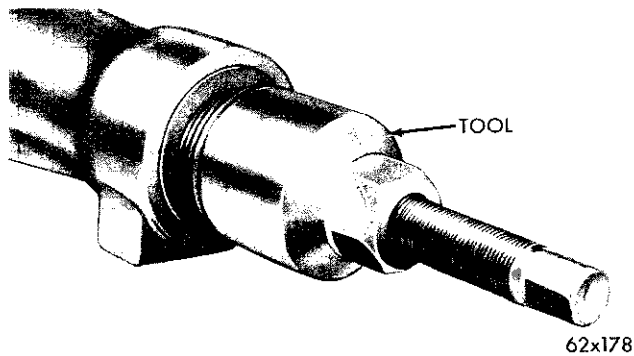

Fig. 36—Removing Output Shaft Oil Seal (Imperial Models)
- (1) Disconnect the propeller shaft at the transmission yoke.
- (2) Hold the transmission yoke with Tool C-3281 and remove the retaining nut and washer. Slide the yoke off the output shaft. (Use puller Tool C-452 if necessary).
- (3) Screw the taper threaded end of Tool C-748 into the seal (Fig. 36) then tighten the screw of the tool to remove the seal.